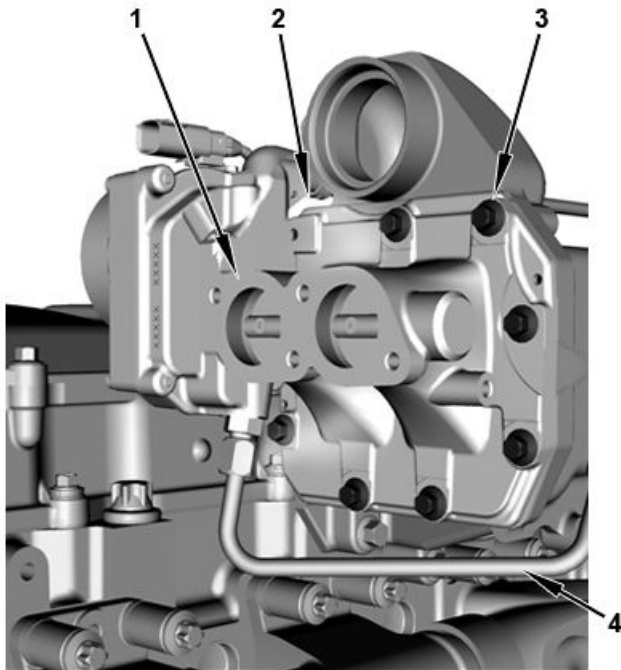

Figure 19. EGR Valve.
23. Remove nine heat-resistant bolts (Figure 19, Item 3) and the EGR valve (Figure 19, Item 3). Position EGR valve coolant return tube assembly (Figure 19, Item 2) out of the way.